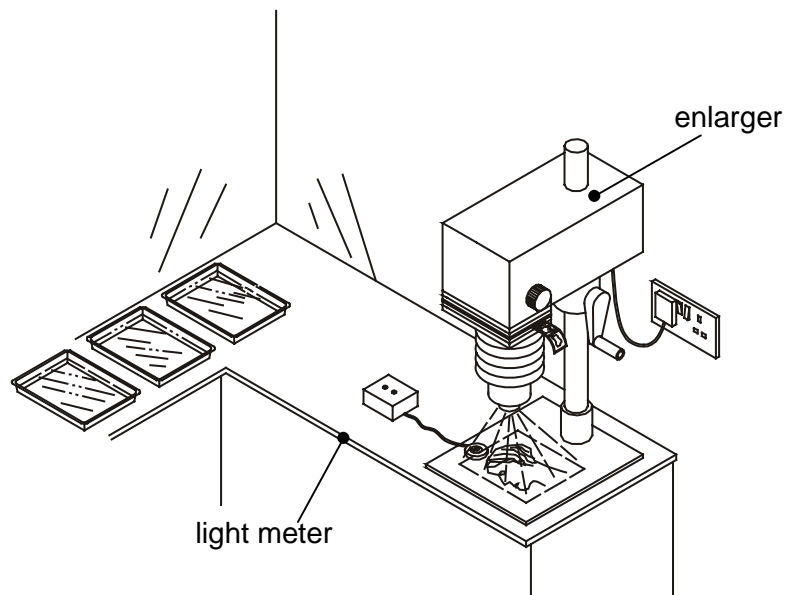

Fig. 1
- 1 Fig. 1 shows a photographic darkroom with an enlarger and light meter, items that are used when printing photographs.